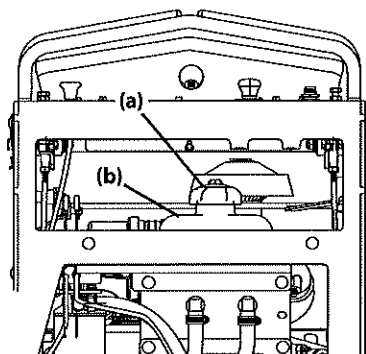

Figure 24
6. Insert a funnel into the reservoir (b). See Figure 24.